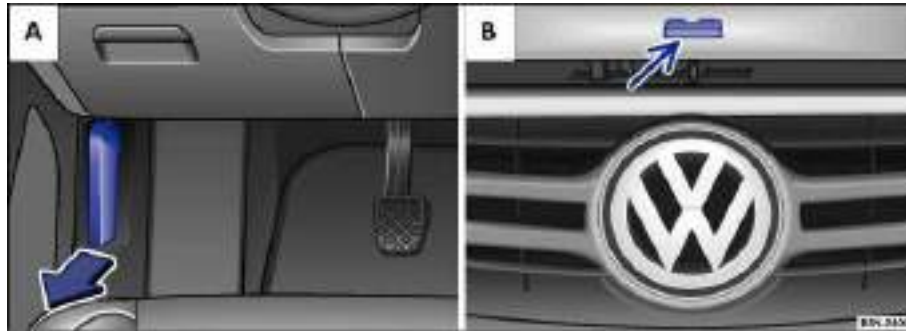

Fig. 162 A: Inside engine hood release in the footwell on the driver side. B: Outside engine hood release in the radiator grille.
- Open the driver door and pull the inside hood release lever in the direction of the arrow ⇒ fig. 162